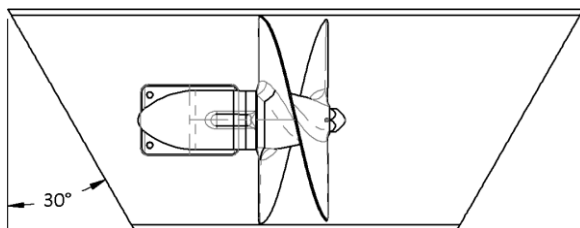

Figure 7 - Tube modification for insufficient submersion applications
- In cases where the minimum submersion cannot be achieved the tube can be modified as shown in Figure 7 on page 15 to encourage flow from the bottom of the tube rather than the top.